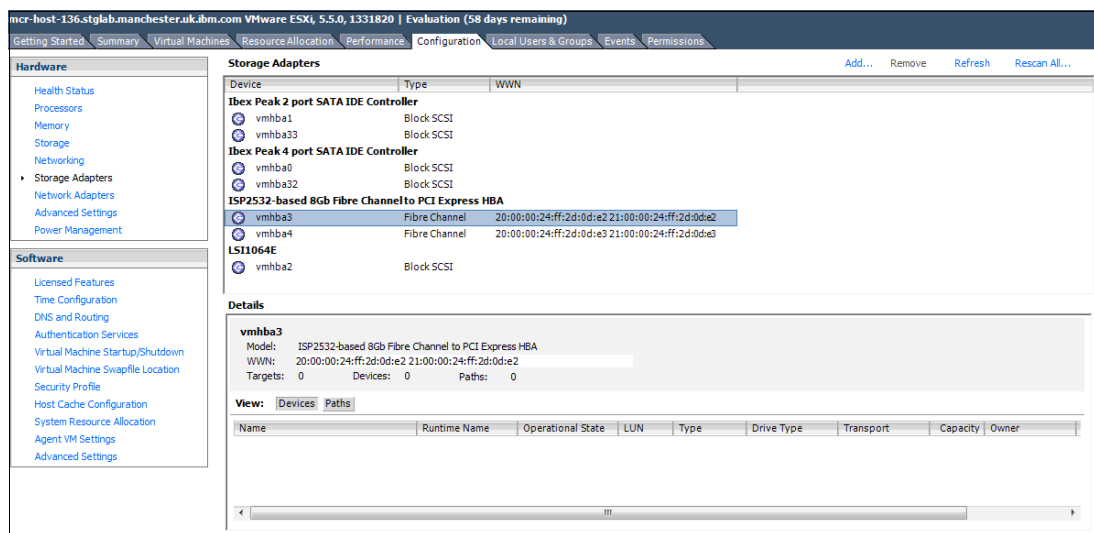

Figure 4-11 FC WWPNs in VMware vSphere Client
2. Browse to the **Configuration** tab. HBA WWPNs are listed under **Storage Adapters**, as shown in Figure 4-11.